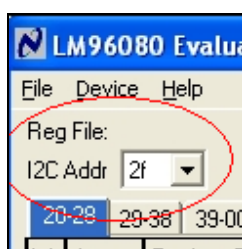

Figure 4 – I²C Address
2. In the SensorEval Software, select the I²C address that matches the address bit selected in step 1. Use table III to set the correct I²C address, which is located on the top left hand corner of the SensorEval Software (figure 4).